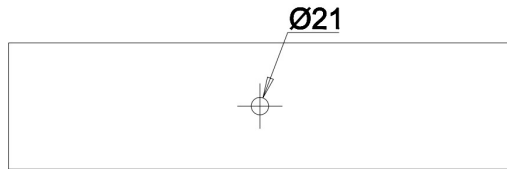
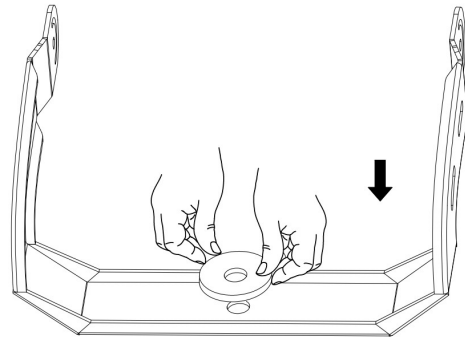

FIG.8
FIG.9
- 1) Drill one hole on the plane, the diameter 21 mm.(See FIG.8). Put the round plate on the bracket.(See FIG.9)